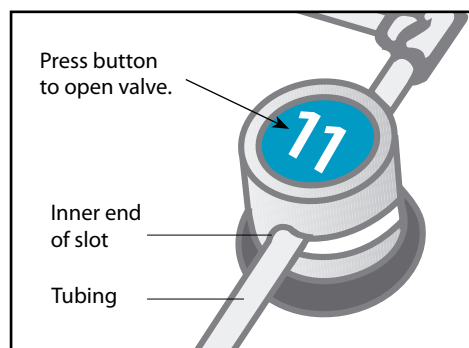
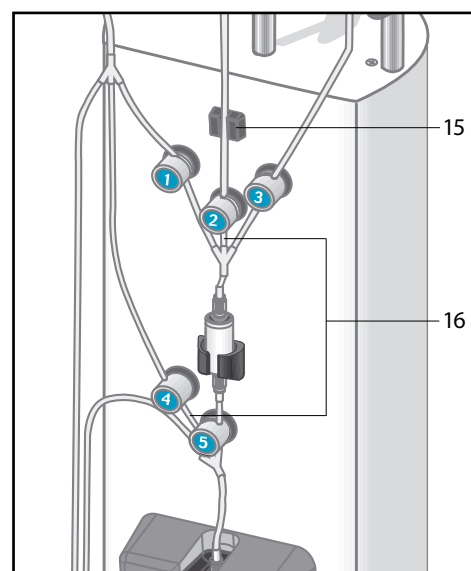
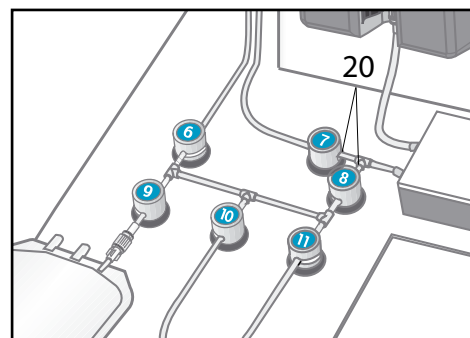

Figure 7: Correctly inserted tubing.
Figure 9: Tubing in valves.
Figure 15: Tubing in valves.
2. Place the pre-column into the holder as shown (see fig. 9).
- If the tubing has to be adjusted after a valve has been closed, do not pull the tubing without pressing the valve button to open the valve (see fig. 7).
1. Load the tubing into valve no. 4. Confirm that the tubing is placed securely in the valve opening (see fig. 7). Pay particular attention to the area between valves nos. 4 and 5 (16, fig. 9).
3. Position the 4-way fitting just below valve no. 2. Pay particular attention to the area below valve no. 2 (16, fig. 9).
5. Mount the tubing between valve no. 2 and the bubble trap into the liquid sensor (15, fig. 9). Confirm that the tubing is placed correctly into the sensor fitting.
- Check all valves for proper tubing insertion. Make sure that the tubing is spaced uniformly, and that there are no kinks or stretched areas in the tubing. Pay particular attention to the pre-column area, as well as the area between the pump and valves nos. 7 and 8 (20, fig. 15), and between valves nos. 4 and 5 (16, fig. 9).